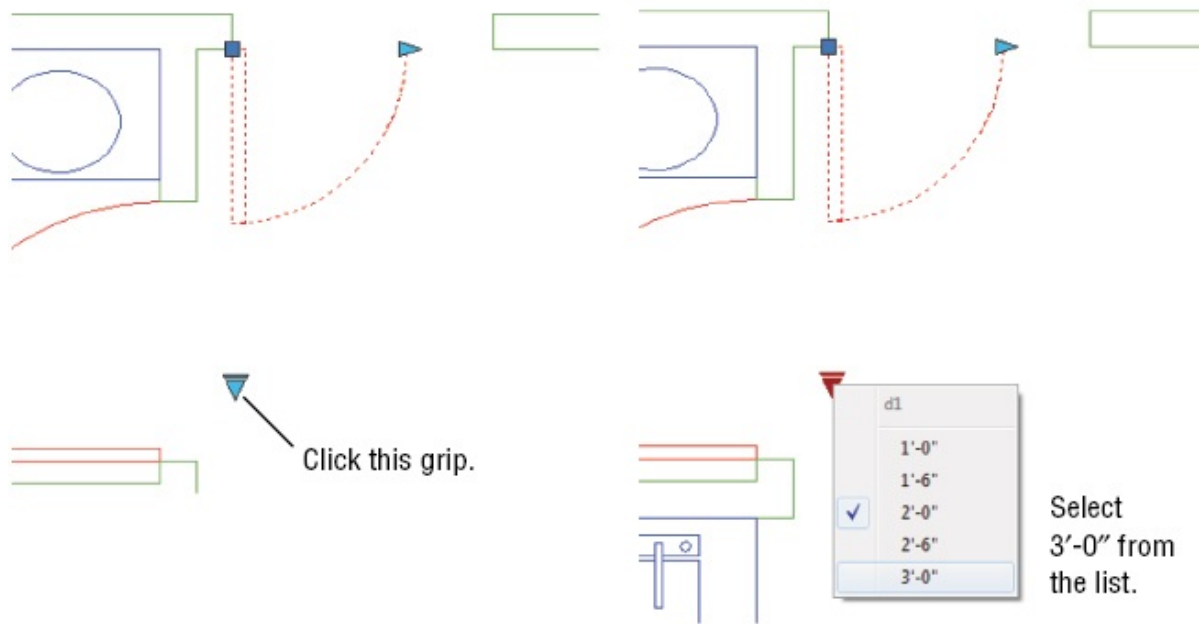

FIGURE 17.20 Selecting a door size from a list
2. Click the down-pointing grip below the door, as shown at the left side of Figure 17.20.
3. Select the 3'-0" door from the list that appears. (See the view to the right in Figure 17.20.) The door changes to a 36"-wide door.